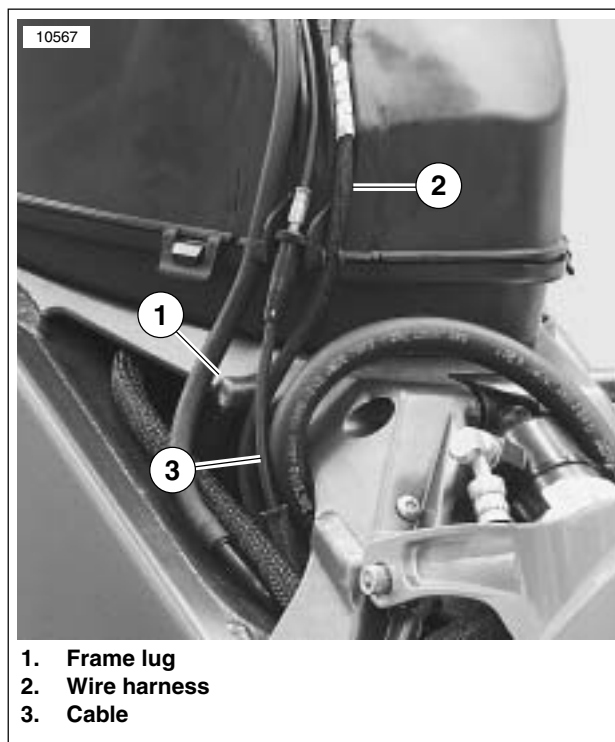

Figure 1-90. Correct Cable Routing Behind Frame Lug
4. See Figure 1-90. Verify that the interactive exhaust cable (2) is routed behind the frame lug (1) before installing air intake cover.